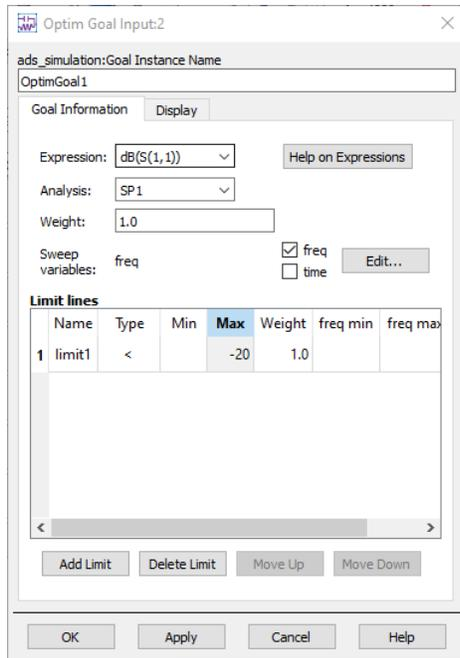

Figure 10. Goal 1
1. We are going to set two goals. Open the first goal block. This goal block is shown in Figure 10. Set the following parameters for the goal. When finished, press **OK**.